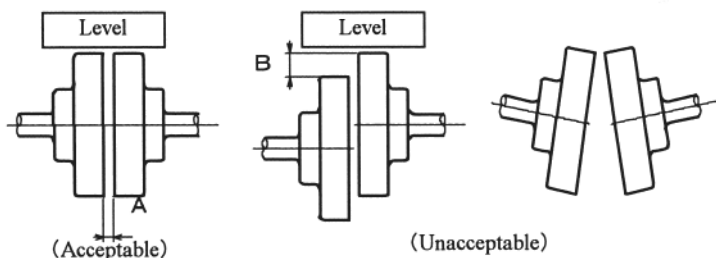

Fig.2 Installation of coupling
- (1) To properly connect the Geared Motor to the machine, reduce the eccentricity between the motor and machine to 0.05mm or less. Use the flexible coupling to easily connect the motor to the machine. (Refer to Fig.2).